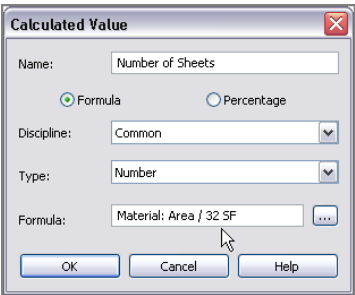

FIGURE 11.35: Changing the calculated values
- 6. Make sure Type is set to Number (see Figure 11.35).